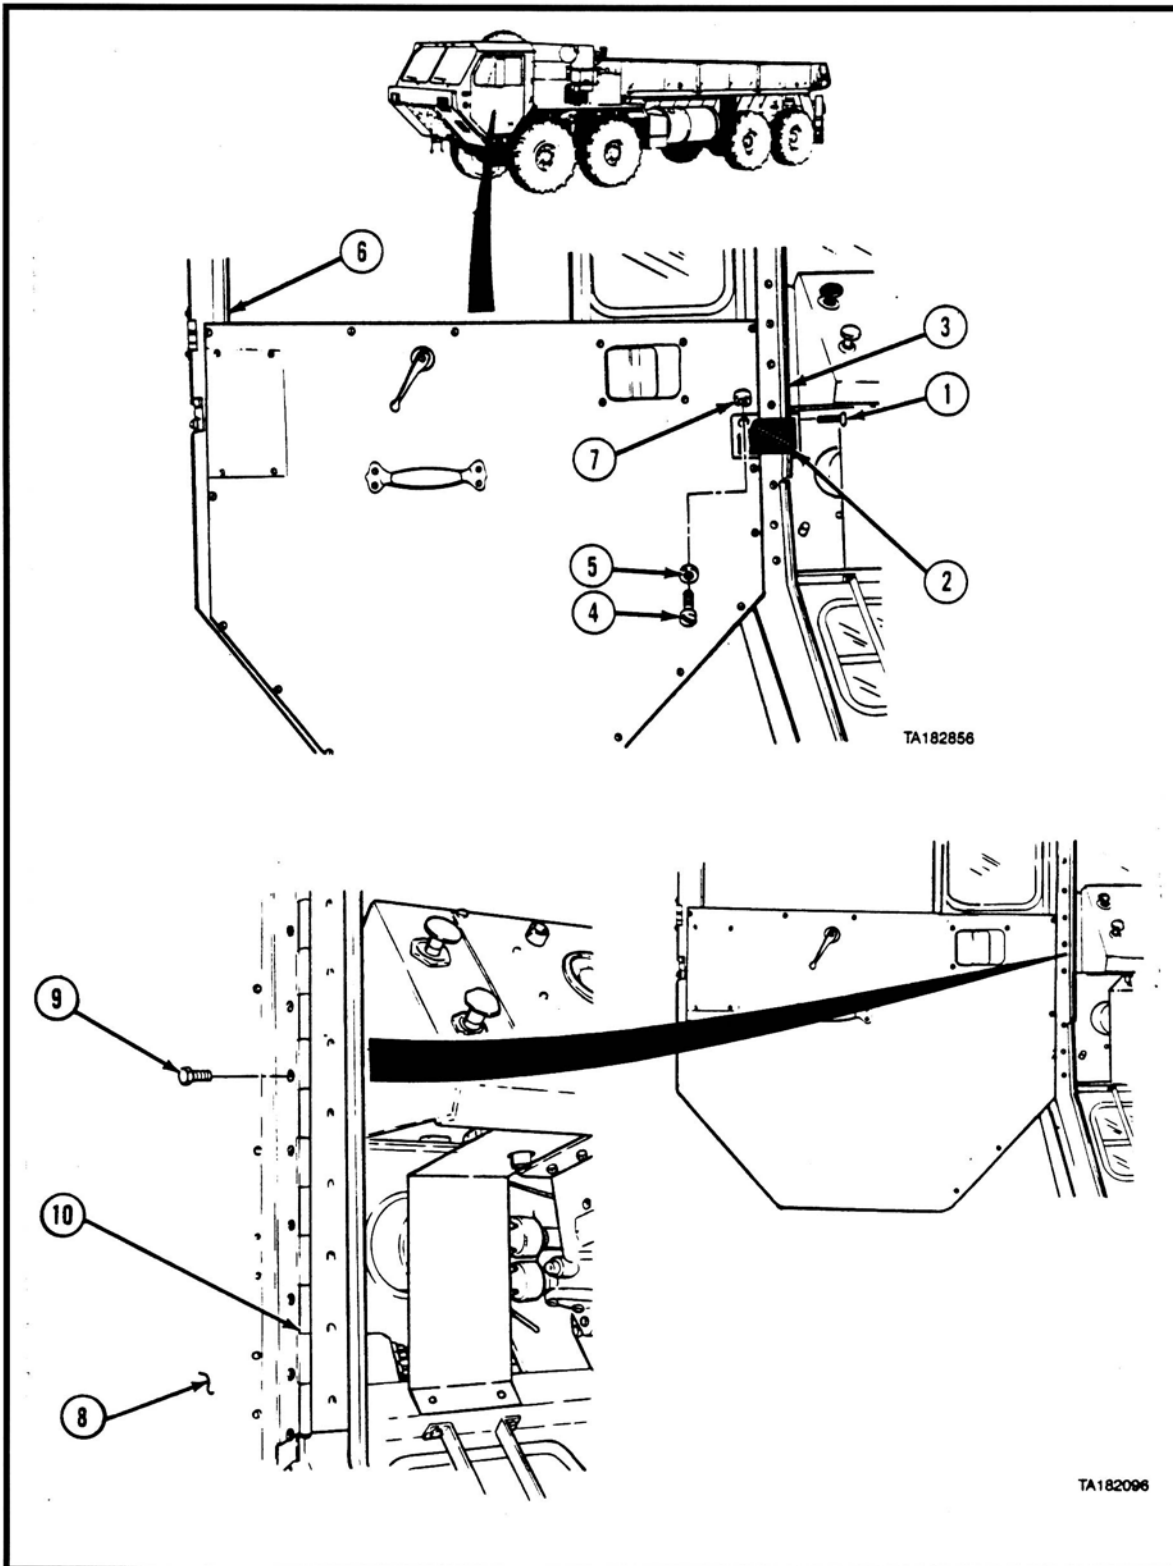

Figure 3. HEMTT Door removal.
2. Remove two screws (Item 4 in Figure 3) two washers (5), and the spacer (7) securing the Doorstrap (2) to the Door Frame (6). It is not necessary to remove the two screws (1) that secure the Doorstrap (2) to the cab.
3. While one person holds the door, have another person remove the ten bolts (9) from the hinge point on the vehicle.
4. Remove the Door (8) and the Door Hinge (10) from the vehicle.